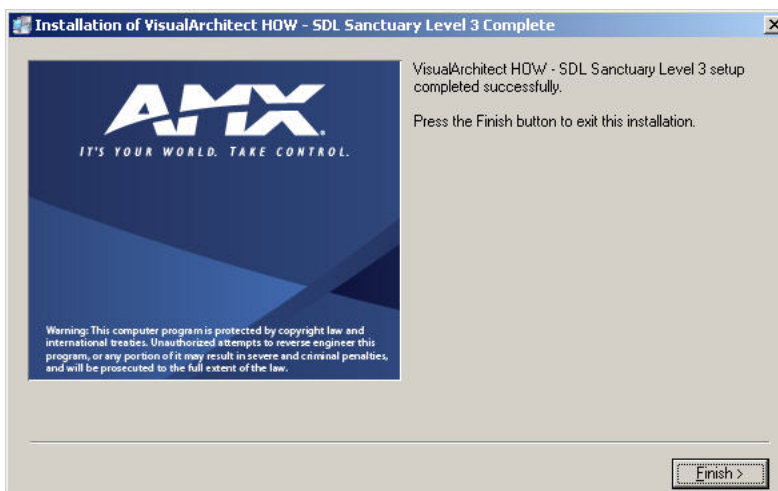

FIG. 294 SDL Installation Complete
5. The program alerts you once the SDL installation is complete (FIG. 294):